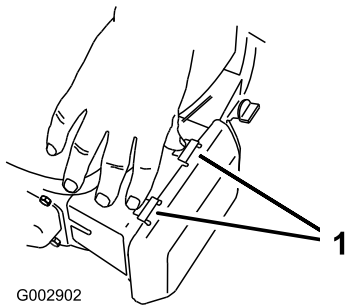

Figure 40
1. Press down on the latch tabs on top of the air-filter cover (Figure 40).